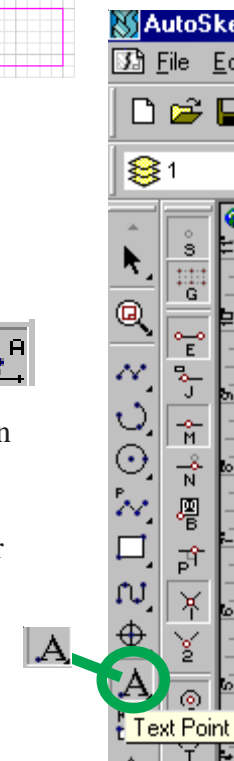

Figure 27
14. The outline of the title block needs to be entered with information. In the drawing menu on the far left side of the screen, use the mouse to click on the text point command which resembles the letter A as in **figure 27**. This activates the command which will allow you to enter text into the title block. Move the mouse over the title block and click the **left mouse button** over the coordinates: